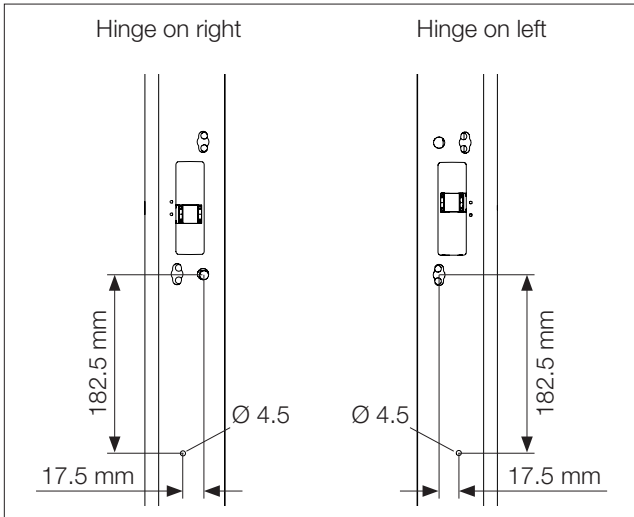

Fig. 11: Drilling the holes
- Drill appropriately sized holes in the required position in the VX glazed door (fig. 11).